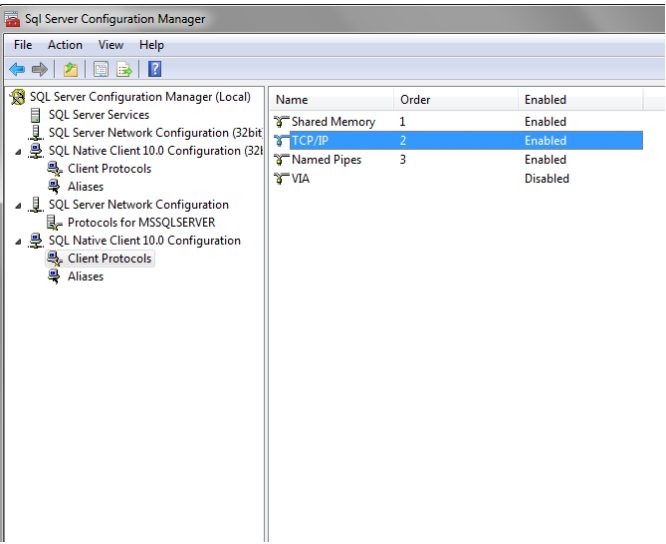

Fig.1.14 Sql Server Configuration Manager
**Step Twelve :** Set TCP/IP of Client Protocols as “Enable” . (see Fig.1.14)